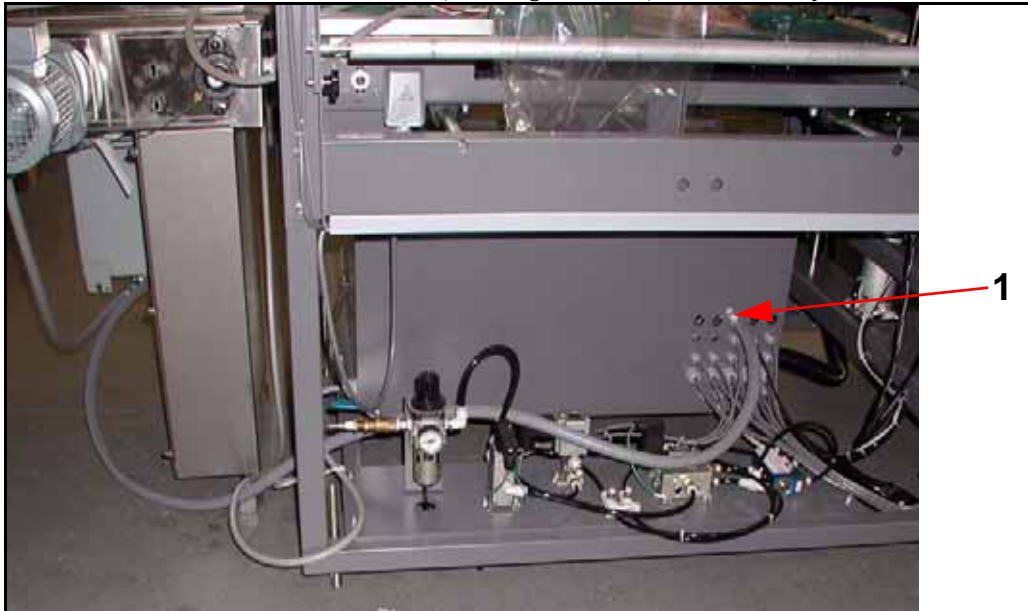

Figure 4-18. Conduit Hookup
- 3 Connect conduit (1 in Figure 4-18) from conveyor to back of machine.